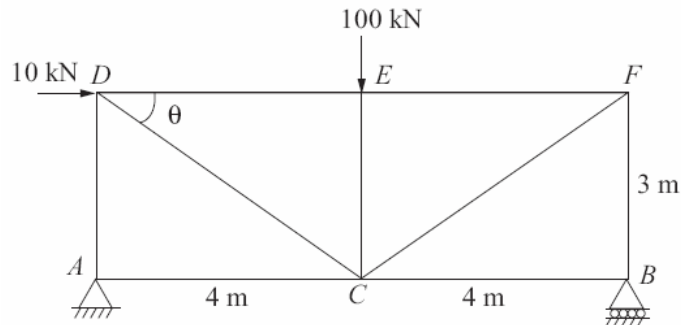

Fig.4
6. Determine the forces in the members of the truss shown in Fig.4, using Stiffness method. All the members have equal cross-sectional areas of 1180 mm^2 . $E=207 \text{ GPa}$. [15]